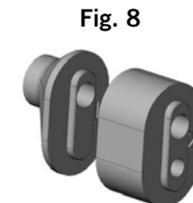
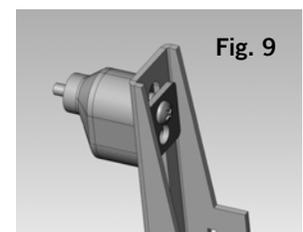

Fig. 8
Fig. 9
The 3/4" spacer (M) may be used by itself (Fig. 7), or in combination with the 5/8" spacer (L), for even greater depth. Stack the two spacers (Fig. 8), and then install them between the display and the mounting rail. (Fig. 9)